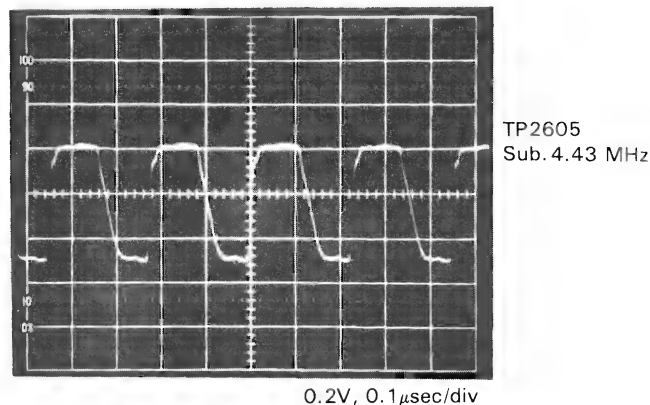

Figure 2-12
3. Connect a frequency counter to TP2606 (GND) and TP2605 (Sub 4.43 MHz) and adjust C2609 (Sub 4.43 MHz Adj.) to obtain a frequency counter reading of  $4433.62 \pm 0.02$  kHz at TP2605. (Fig. 2-12)